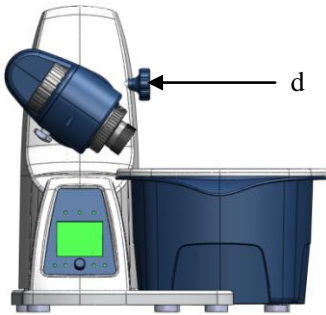

Figure 8
- Set the drive at an angle of approx.30 °(Figure 8)